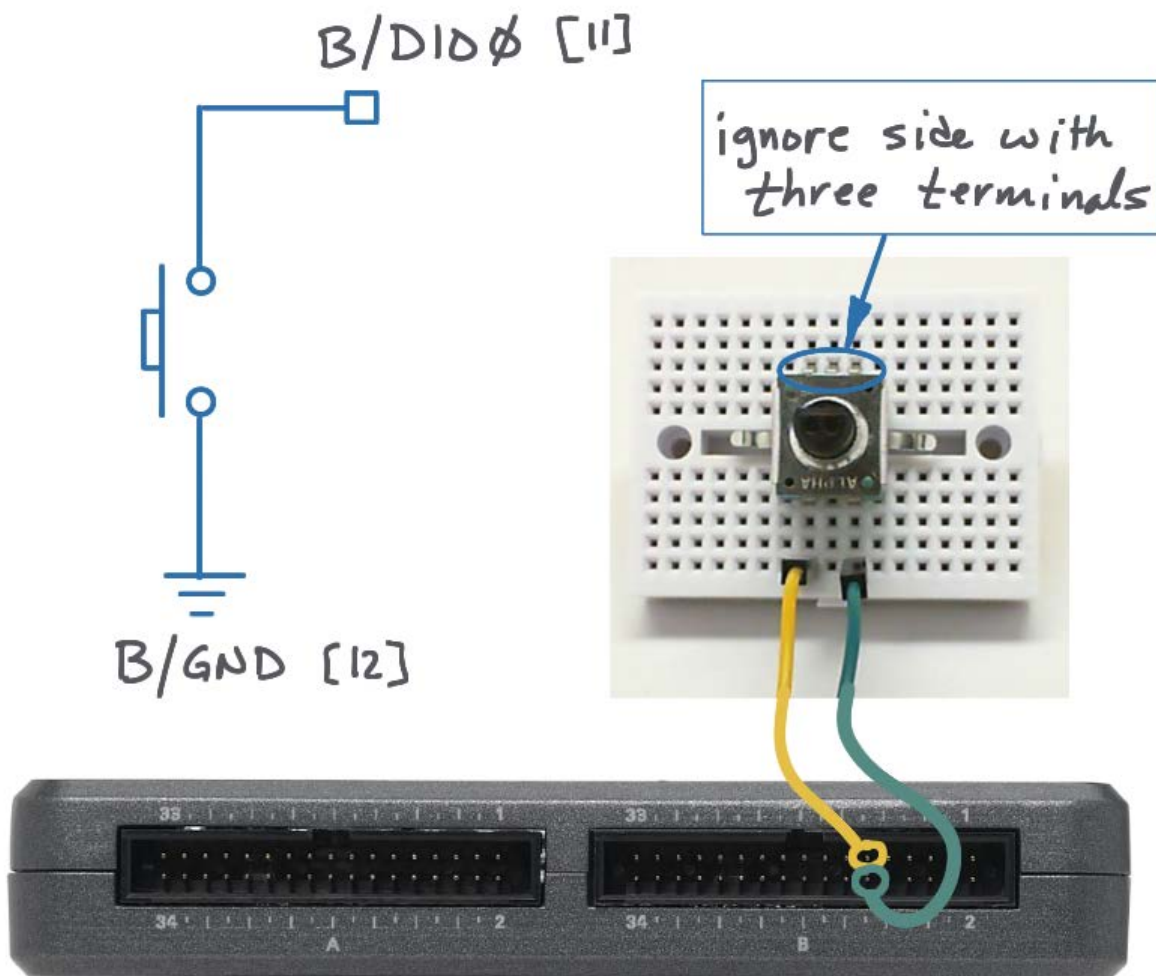

Figure 4.2: Demonstration circuit for pushbutton switch: schematic diagram, recommended breadboard layout, and connection to NI myRIO MXP Connector B.
**Build the interface circuit:** Refer to the schematic diagram and recommended breadboard layout shown in Figure 4.2 on the facing page.